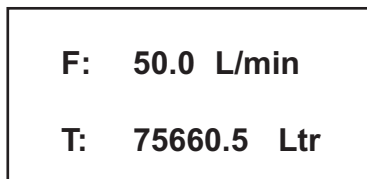

Figure b-4: FMA 4000 Main Screen
Note: After 6 minutes of the initial powering of the FMA 4000 the transducer, status LED will emit a constant **GREEN** light (normal operation, ready to measure). For FMA 4000 with LCD option, the screen will reflect flow and totalizer reading. (see **Figure b-4**).
4. Release maintenance push button after 6 seconds. For FMA 4000 with optional LCD, when FMA 4000 Main Screen appears (see **Figure b-4**).